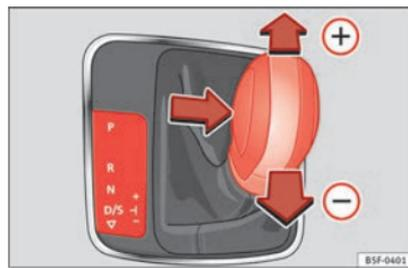

Fig. 159 Changing gear with Tiptronic.
- Lightly press the selector lever forward »» Fig. 159 (+) to change up to a higher gear.
- Lightly press the selector lever backward »» Fig. 159 (-) to change down to a lower gear.